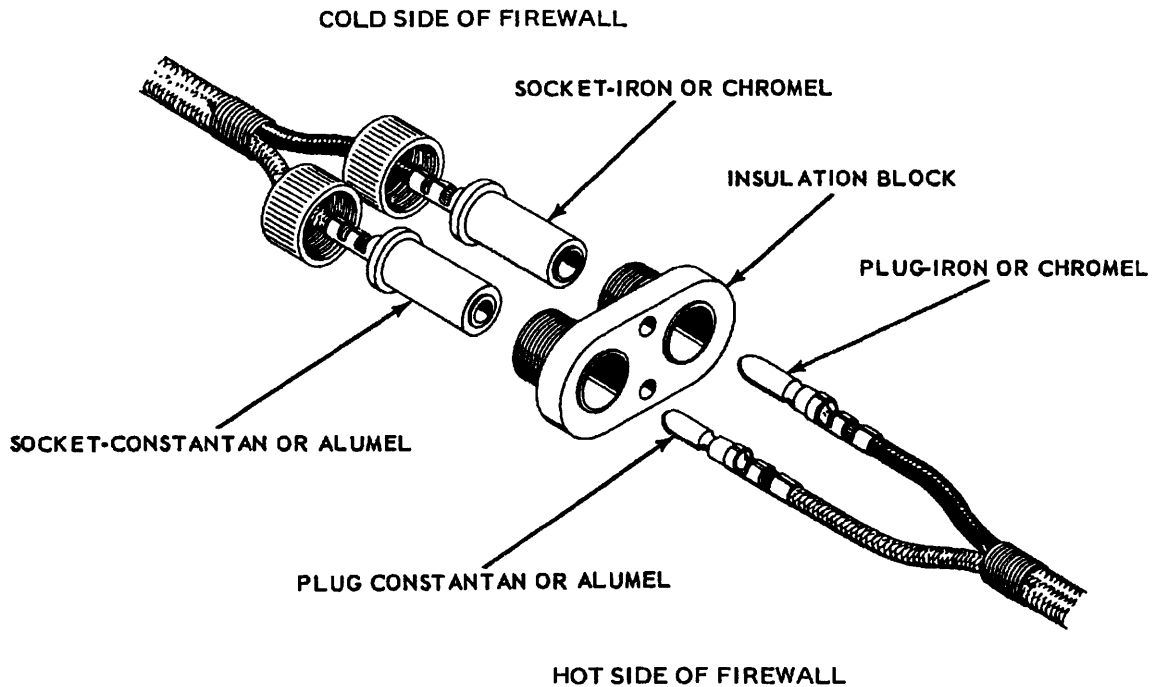

Figure 44. Thermocouple Connector Assembly (AN5537)
65. See Figure 43 for Butt Splicing Procedure and Figure 44 for Stub Splicing Procedure.